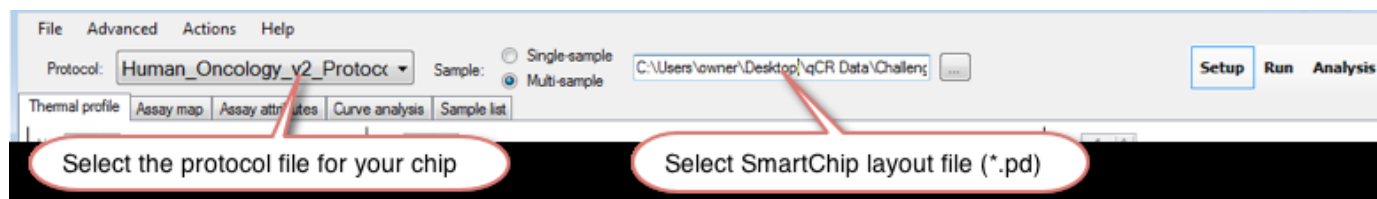

Figure 15. Selecting the protocol for your pre-dispensed SmartChip Custom Panel.
- If your SmartChip Panel contains multiple samples that were loaded using the SmartChip MSND, click the **Multi-sample** radio button next to “Sample”. Then click the button labeled [...] to open the **Open** dialog box and navigate to the location of the SmartChip Layout file (*.pd extension) from the SmartChip MSND for your chip. (You will likely access the SmartChip Layout file on a USB memory stick or across a network.) Select the file and click [Open] to accept your choice and close the window (Figure 15).